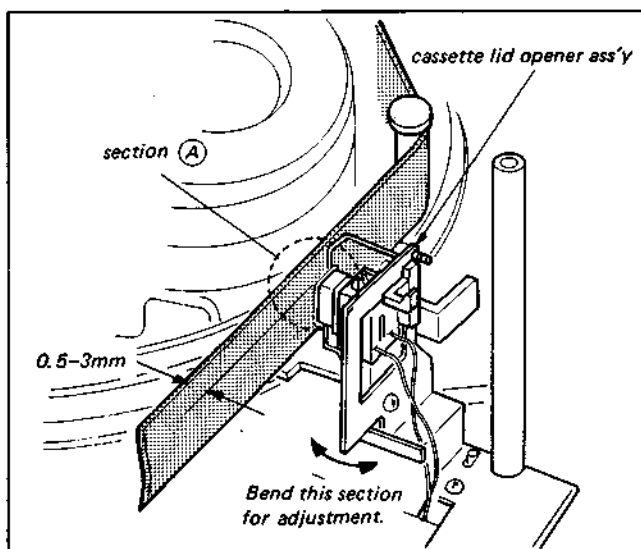

Fig. 3-27. Position adjustment of cassette lid opener metal (1)
- The plate of the cassette lid opener bracket must be near the center of the slot in the white plastic holder guide when the cassette lift assembly is lowered. If it is not in this position, bend the lower section of the cassette lid opener bracket, as shown in Fig. 3-27, for adjustment.
- Confirm that section (A) in Fig. 3-27 satisfies the specification (0.5mm to 3mm) when the cassette is inserted and the PLAY mode is set up. This is the spacing between the tape and the take-up sensor.